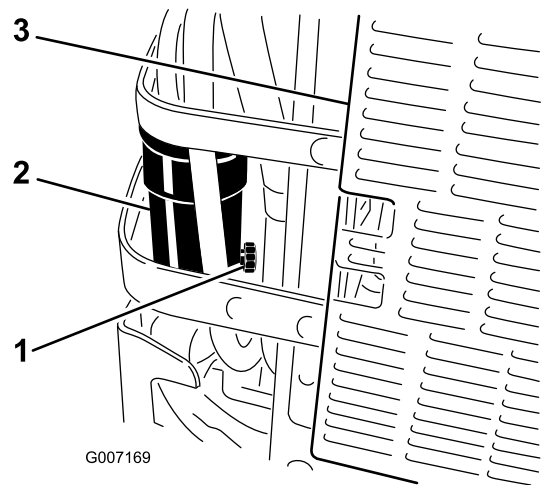

Figure 50
6. Open the drain valve on the water separator approximately one turn to allow water and other contaminants to drain (Figure 50).
7. Close the drain valve when only diesel fuel comes out (Figure 50).